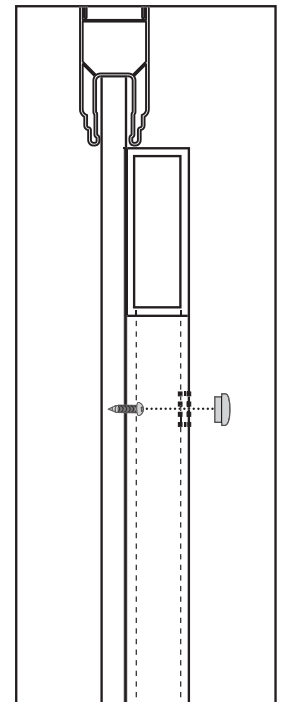

Figure 4
- 12.) Place gate brace back on gate and using the holes just made, screw the gate brace to the panel. See *Figure 4*.